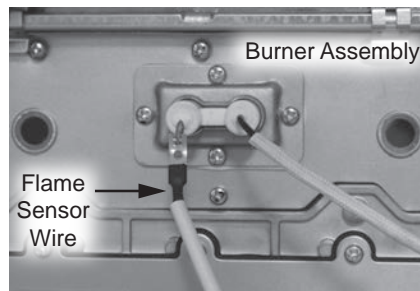

Figure 108 - Removing flame sensor wire
- 5 Locate flame sensor wire attached to burner assembly. Disconnect wire and place aside for easy access to the gas manifold. See Figure 108.
- 24** Locate the flame sensor previously disconnected from burner assembly in **Step 5**. Connect flame sensor wire. See Figure 108.